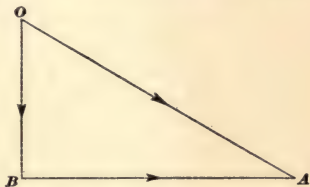

FIG. 5.
84. Since two forces can be combined to form a single resultant force, we may also treat a single force as if it were the resultant of two forces whose action upon a body will be the same as that of a single force. Thus, in Fig. 5, the force OA may be resolved into two forces OB and BA . If the force OA acts upon a body moving or at rest upon a
85. It frequently happens that the position, magnitude, and direction of a certain force is known, and that it is desired to know the effect of the force in some direction other than that in which it acts. Thus, in Fig. 5, suppose that OA represents, to some scale, the magnitude, direction, and line of action of a force acting upon a body at A , and that it is desired to know what effect OA produces in the direction BA . Now BA , instead of being horizontal, as in the figure, may have any direction. To find the value of the component of OA which acts in the direction BA , we use the following rule:
Thus, suppose OA , Fig. 5, represents a force acting upon a body resting upon a horizontal plane, and it is desired to know what *vertical pressure* OA produces on the body. Here the desired direction is vertical; hence, from one extremity, as O , draw OB parallel to the desired direction (vertical in this case), and from the other extremity draw AB perpendicular to OB and intersecting OB at B . Then OB , when measured to the same scale as OA , will be the value of the vertical pressure produced by OA .